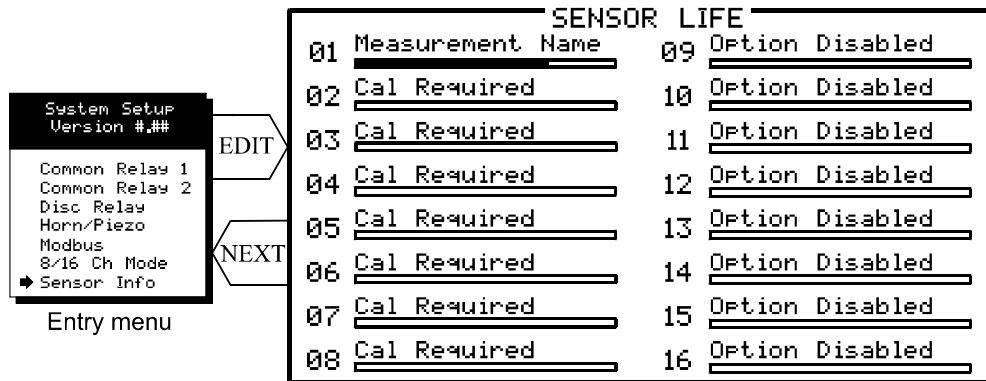

Figure 2.16
**Sensor Info** is available when at least one channel has **Sensor Life** activated in the **Marker** menu (see section 2.2.4b). The **Sensor Info** screen displays each channel's sensor status as illustrated in Figure 2.16. Channels with **Sensor Life** disabled indicate **Option Disabled** above the corresponding empty bar-graph. If **Sensor Life** is enabled, the channel will have its Measurement Name above the bar, or, an empty bar with a **Cal Required** label. **Cal Required** indicates no Calibration Marker value has been received by the C1.